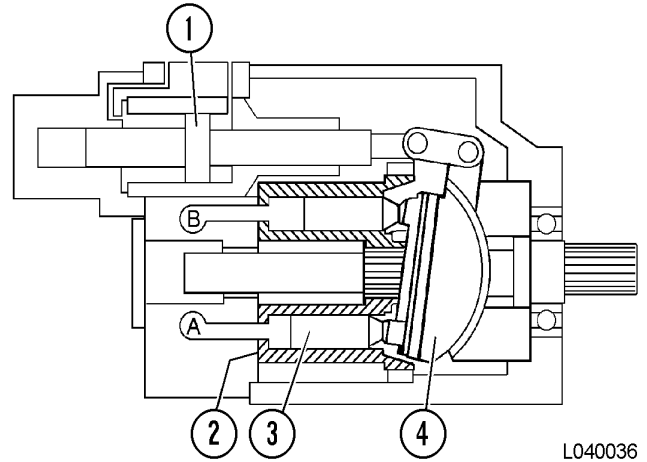

FIGURE 10-9. HALF PUMP VOLUME
The position of control piston (1, Figure 10-9) is near the center of its travel. Swashblock (4) is not angled as steeply as before. Therefore, the pistons have a shorter stroke. As the piston stroke gets shorter, the pump output also decreases.